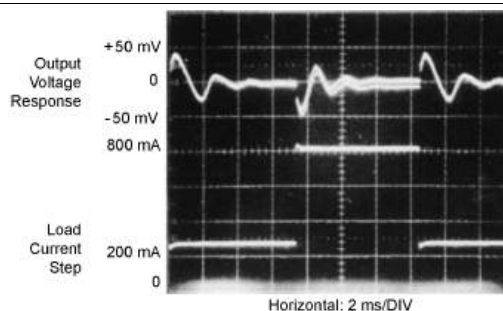

Figure 19. V_{OUT} Load Current Step Response
- (1) As shown in Figure 17, the LM2585 can be used as a flyback regulator by using a minimum number of external components. The switching waveforms of this regulator are shown in Figure 18. Typical characteristics observed during the operation of this circuit are shown in Figure 19.